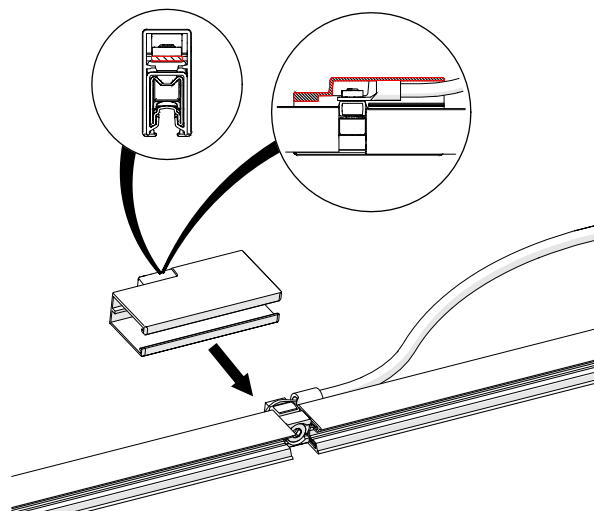

Fig. 112: Tighten the cylinder screw with 2 Nm
- Slide the contact-preventing line feed cap over the preassembled rail connector. Ensure that the square nut is aligned in the recess of the connector cap. Engage the line feed cap on both sides of the insulating profile (see Fig. 112).